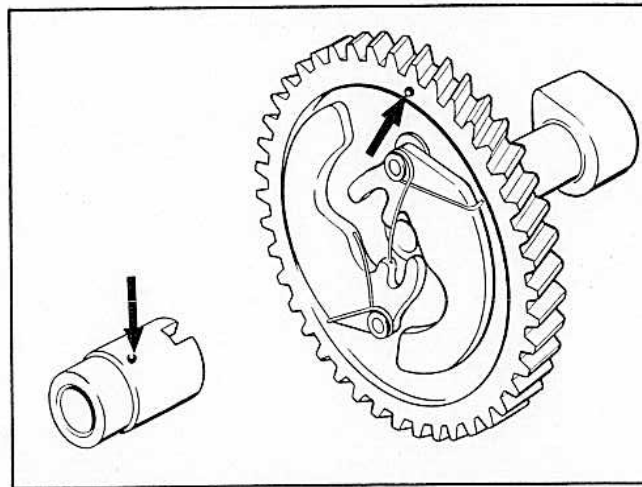

FIGURE 12-5 TIMING MARKS ON AUTOMATIC SPARK ADVANCE CAMSHAFT
- c. Position camshaft inside block. **Note:** On pre-ACR models with the automatic spark advance camshaft, spread actuators and insert cam -- align timing marks on cam and on gear as shown in Figure 12-5.